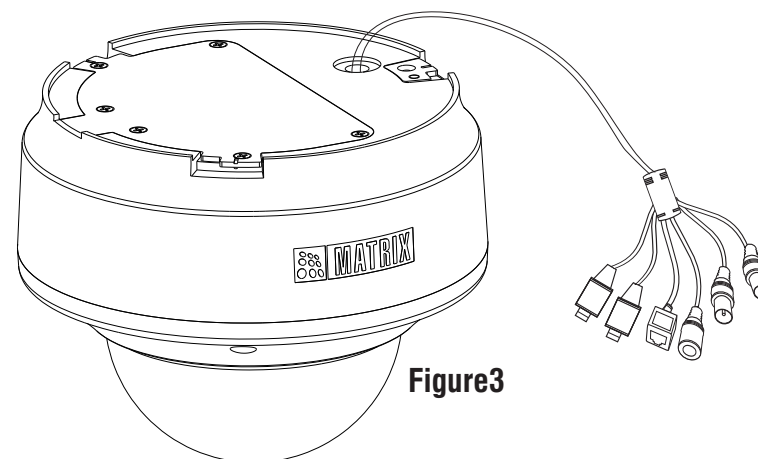

Figure3
- To avoid cable damage, take the Power, Ethernet, Audio IN, Audio OUT, Alarm IN, Alarm OUT cables of the camera through the cable hole on the base plate. see **Figure:3**